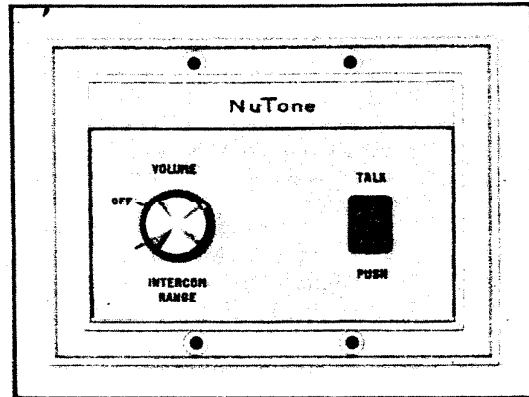

Fig. 14. Remote control of Model 2014 patio speaker.
3. Mount the remote panel to the two-gang wall box with the four screws provided (Fig. 14).